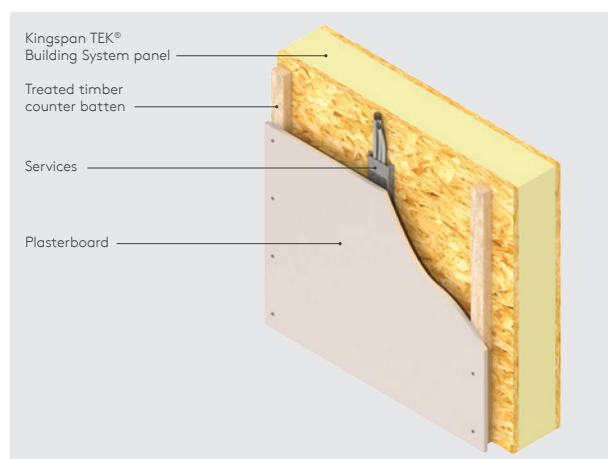

Figure 5
- a single layer of min. 12.5 mm plasterboard on min. 25 mm deep by 50 mm wide vertical timber battens (see Figure 5); or